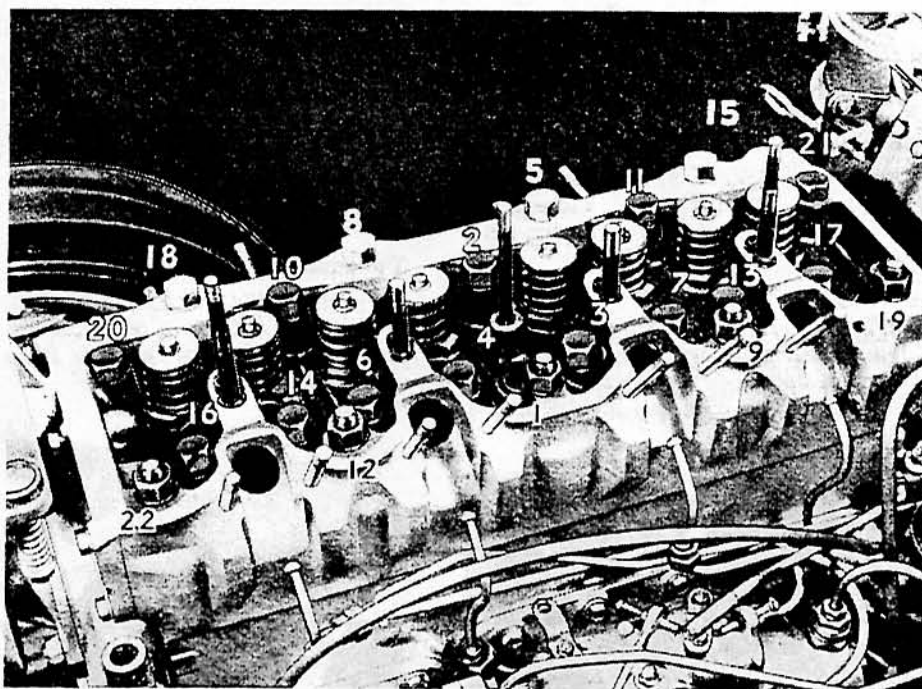

FIG. 120 ORDER OF TIGHTENING CYLINDER HEAD SET SCREWS
3. Loosen the cylinder head set screws and nuts in reverse order to that shown in Fig. 120. Remove cylinder head complete with thermostart housing. Remove cylinder head gasket.
3. Check that pre-combustion chambers are correctly located in their bores in the cylinder head. Remount cylinder head, and tighten set screws and nuts gradually in the order recommended in Fig. 120, to a torque loading of 90-105 lb.ft. (12.4-14.5 kg.m.).